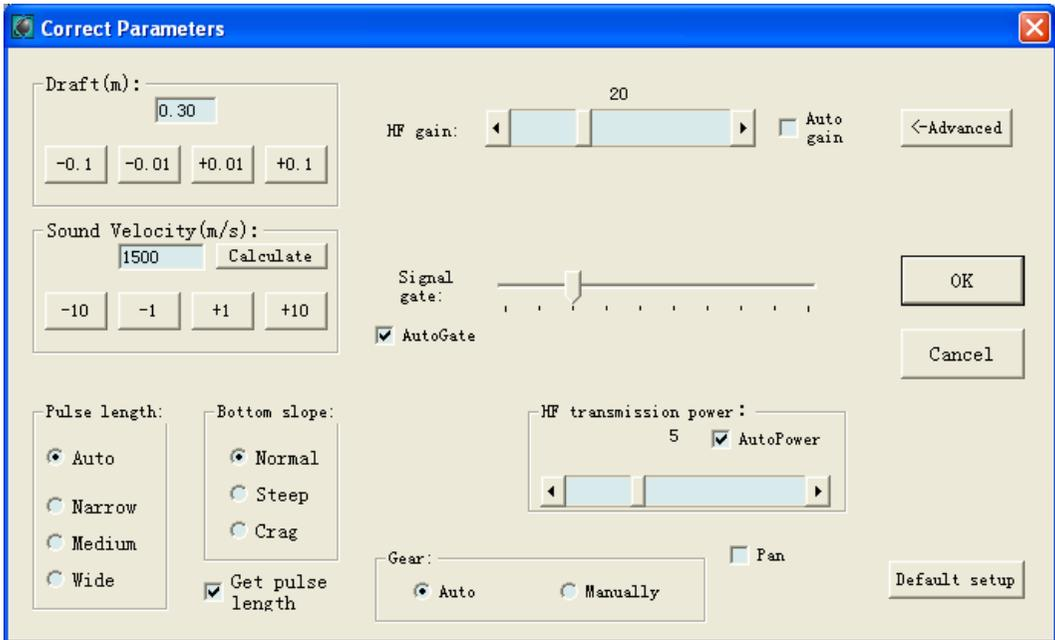

Figure 2-11 Parameters and environment configuration
6. Signal Threshold: signal threshold value, which restrains small range of interferential signal is divided into ten levels; maximum value is 60% of signal's full extent. In shallow water it can be set up a little more, while in deep water it can be set up a little less, as figure 2-11.